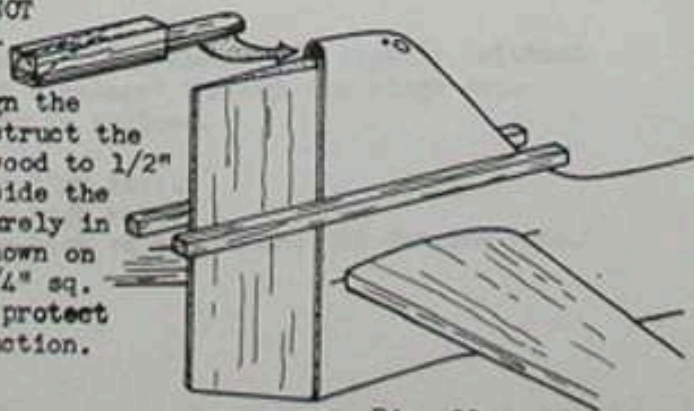

Fig. 30
29. Draw a centerline on the fin hinge line and cut slots for the rudder hinges. Cut matching slots in the rudder. Attach but DO NOT GLUE the rudder to the fin. Sparingly Hot Stuff a 1/4" square balsa piece to each side of the fin to align the rudder in the neutral position. Construct the fin tip by laminating 1/8" thick plywood to 1/2" thick hard balsa and carve to fit inside the fin as shown in figure 30. Glue securely in place and shape fin tip to contour shown on template drawing. Leave rudder and 1/4" sq. pieces temporarily installed to help protect the fin tip during subsequent construction.